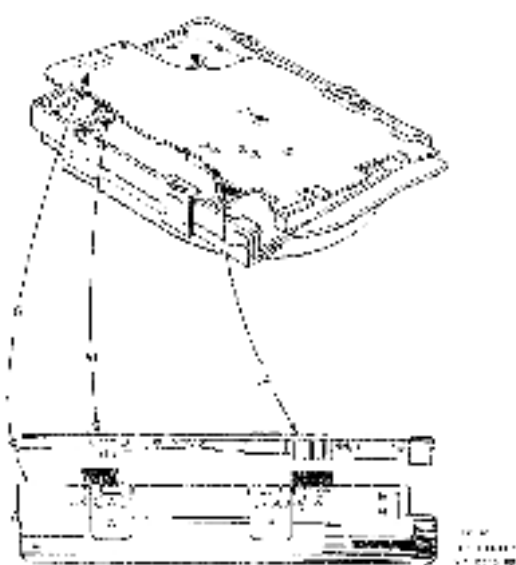

Figure 2-25 24, 32, and 36 Connectors
2. Disconnect the J4, J5, and J6 connectors from the device electronics board (Figure 2-25).